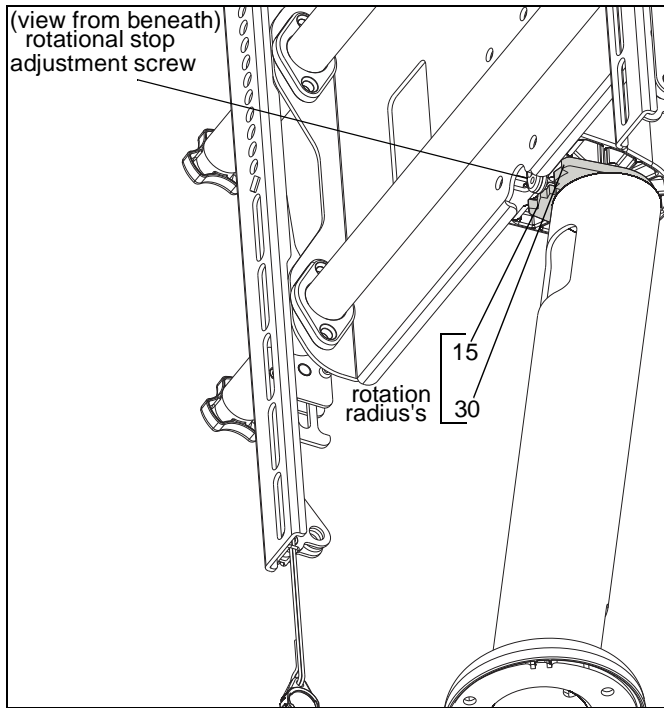

Figure 5
- Use the 5/32" security hex key (Z) to loosen rotational stop adjustment screw and adjust rotation radius as desired. Tighten rotational stop adjustment screw after desired radius is achieved. (See Figure 5)